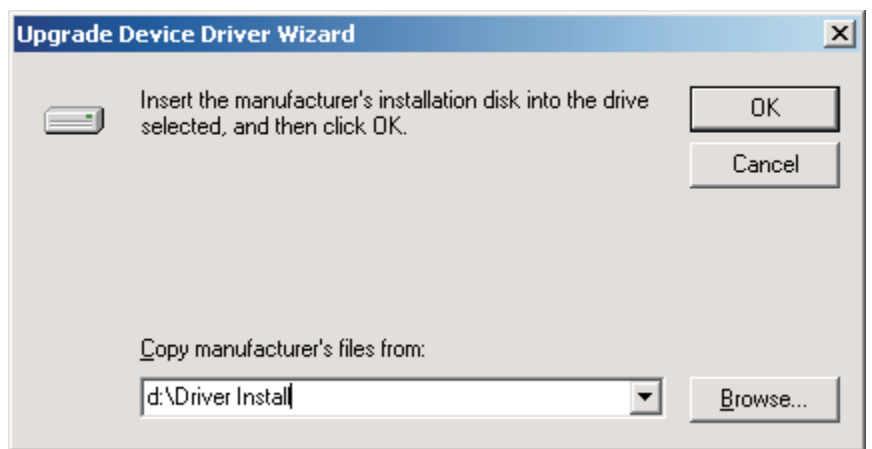

Figure 31. Specifying the Location of the Driver
6. A screen appears with a prompt for the location of the device driver files. You should specify the directory into which you unzipped the driver files. For example, if you unzipped the files into d:\Driver Install, you would type d:\Driver Install in the edit. See Figure 31.